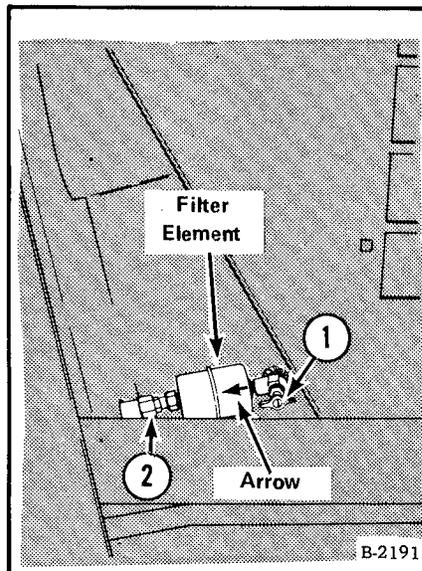
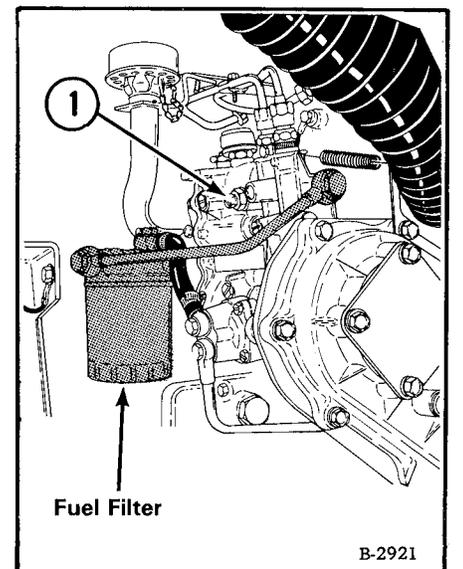

Fig. 1-12 Fuel Filter (520, 530)
Fig. 1-13 Fuel Filter (533)
The 520 and 530 loader has a fuel filter installed next to the shut-off valve on the fuel tank (Fig. 1-12).
When you install a new element, make sure that the arrow point is in direction of the carburetor (Fig. 1-12).
The 533 fuel system uses a "turn on" filter element, installed on the left side of the engine (Fig. 1-13).
- Close the shut-off valve for fuel (Fig. 1-12, Item 1).
- (2) Turn the filter element counterclockwise to remove it.
- (3) Clean the element contact area on the filter housing.
- (4) Put oil on the rubber gasket and turn the new element clockwise to install it. Use your hand to tighten the element until it is hand tight.
- (5) Open the shut-off valve for fuel.
- (6) Loosen the screw to let air out of the system (Fig. 1-13, Item 1).
- (7) Engage the starter and turn the engine until fuel flows freely from the loosened screw, then tighten the screw.